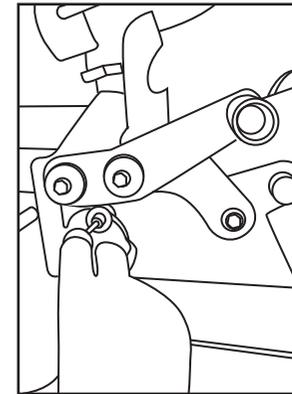

Fig 11
1. When bending 1-1/2", or 2" Galvanized EMT or Galvanized IMC, the amount of squeeze applied to the conduit can be adjusted to compensate for conduit variations. The squeeze is adjustable by pulling pin and rotating the Squeeze Adjustment Lever (7) to increase or decrease the amount of tension needed to properly seat the conduit as shown in (Fig 11).